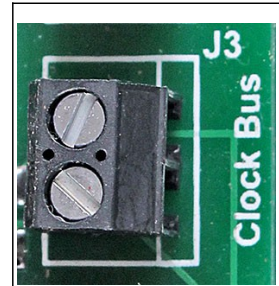

Fig. 52: Clock connector.
- ☐ Connect the two wires from a modified clock movement to the two screw terminals on J2. It doesn't matter which wire connects to which screw. See Fig. 52.